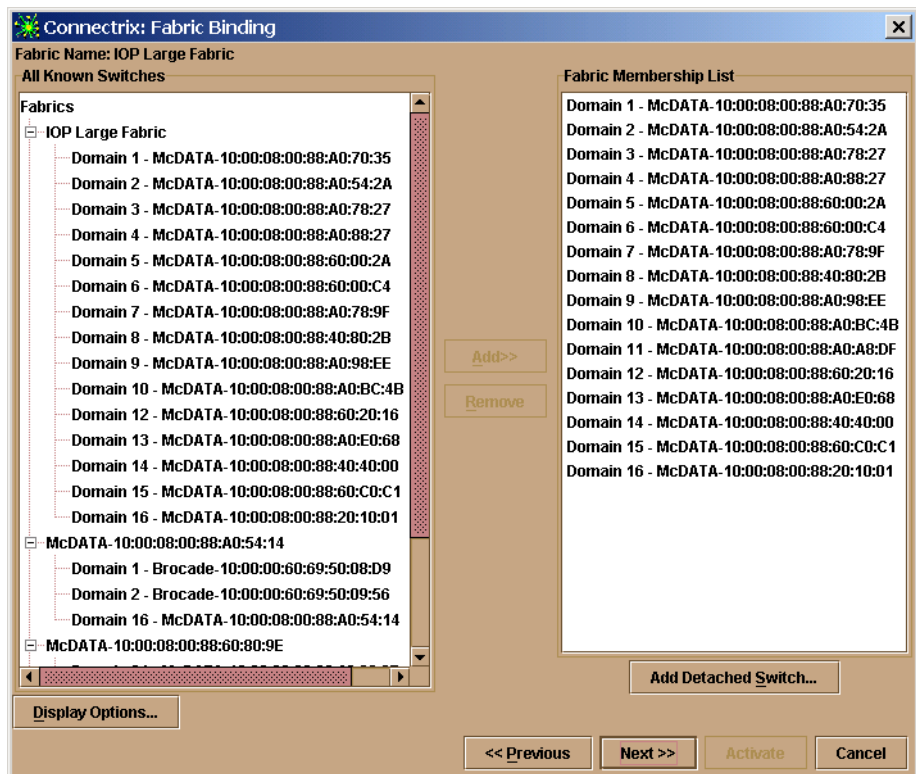

Figure 4-12 Fabric Binding — Fabric Membership List
4. Click **Next** to display the Fabric Binding Membership list (Figure 4-12).
In the Fabric Binding window (Figure 4-12):